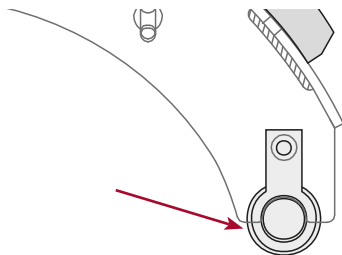

Figure 61: Install Roller Assembly into Brake Shoe
2. Fit clip onto roller and install into the brake shoe assembly. Refer Figure 61.